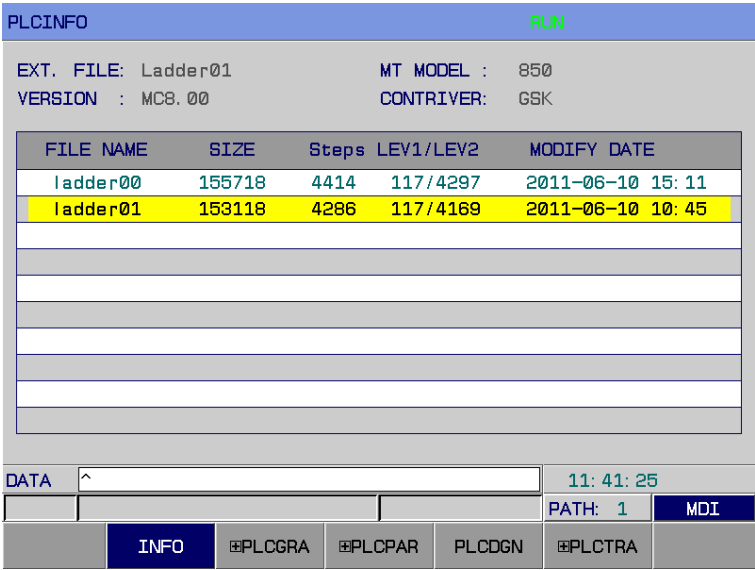

Fig. 1-2-1-1
1. Enter the programmable page by pressing the <program-controlled> key; enter the INFO interface pressing the [INFO] soft key, refer to the fig. 1-2-1-1. Also, it can be set under the PLC interface defining the bit parameter No: 26#6=1, and then enter the INFO interface pressing the <program-controlled> key again. This interface offers some relative information of this system, such as the version number, modification data.
Enter **PLCGRA** interface pressing the **[PLCGRA]** soft key, it also can be set under the PLC interface defining the bit parameter **N0: 26#6=1**, and press the <programmable> key to shift the screen entering the **PLCGRA** interface. Refer to the Fig. 1-2-1: